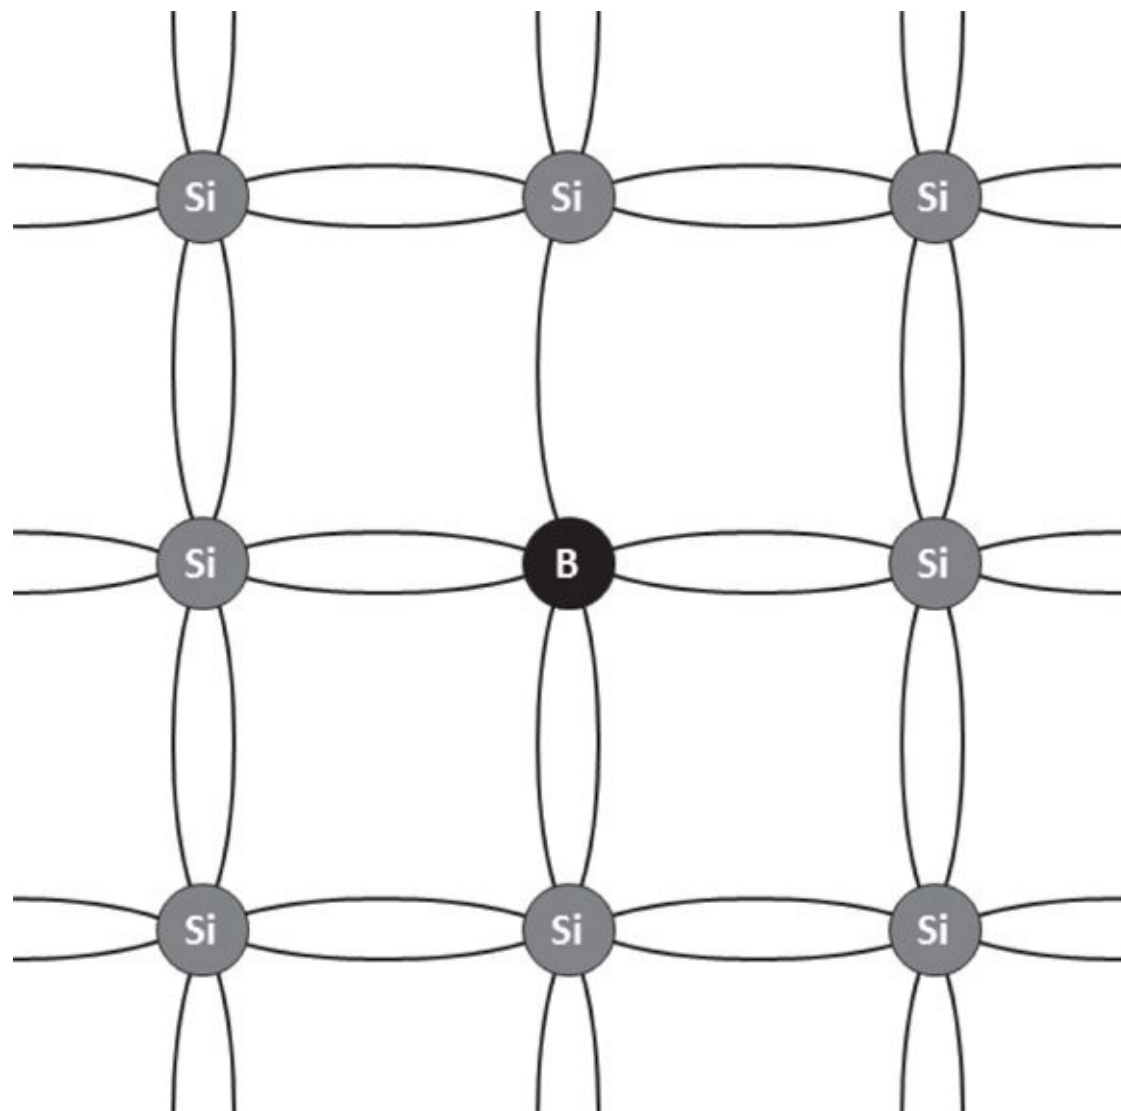

FIGURE 5-4: A P-type semiconductor has holes where electrons should be.
- **P-type semiconductor:** Happens when the dopant is an element (such as boron) that has only three electrons in the valence shell. When a small amount of boron is incorporated into the crystal, the boron atom is able to bond with four silicon atoms, but since it has only three electrons to offer, a gap is created where there would normally be an electron, as shown in Figure 5-4 . This electron gap is called a *hole* . The hole behaves like a positive charge, so semiconductors doped in this way are called *P-type semiconductors*.